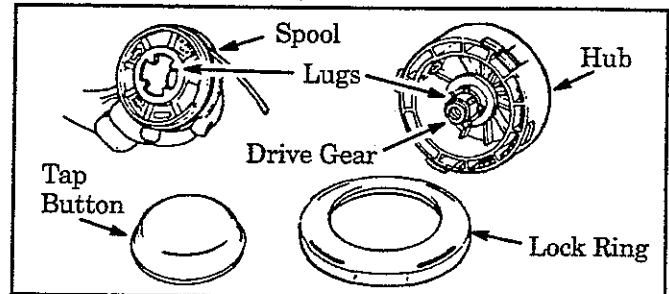
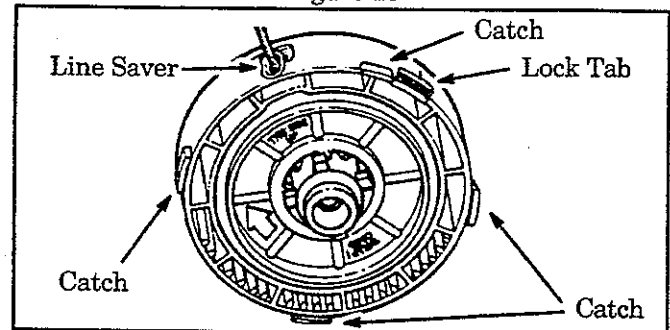

Figure 18
Figure 19
- b. Remove the lock ring, tap button, and spool. Figure 18.
NOTE: The aluminum line saver (Figure 19) can become worn during use. After a groove is worn into the line saver, remove it from the trimmer head, turn it upside down, and reinstall it (with the spool removed) to provide a new wear surface.
- e. Insert the end of the line through the line saver. Figure 19. Place the spool in trimmer head. Press the spool down, then turn it enough to lock the lugs on the spool under the lugs on the drive gear. Figure 18.
- f. Replace the tap button. Align the lock ring over the catches on the hub; push the lock ring down on the hub and turn it clockwise until the catches lock into place. Figure 19.